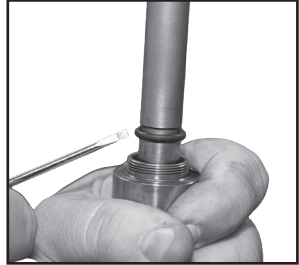

FIGURE 13
- FIGURE 13 - Remove the Gas O-ring.
- Punch out firing pin retaining pin (Fig. 13)